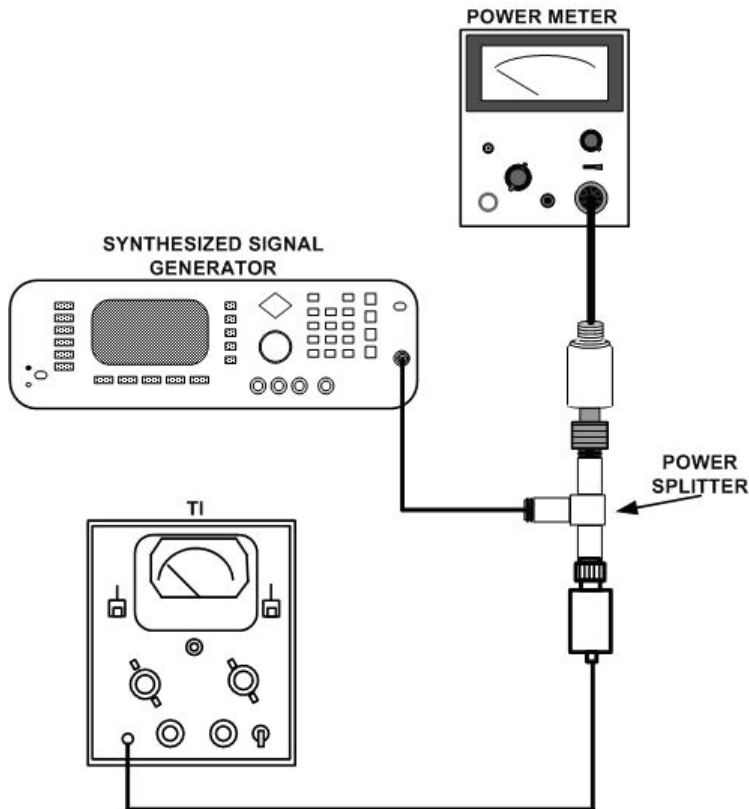

Figure 5. Thermistor mount - equipment setup.
(1) Set **POWER RANGE** (**RANGE** on some models) switch to **1.0 MW** and zero the TI meter, using **BOLO BIAS CURRENT** (**BIAS CURRENT** on TS-799/U) switch and **ZERO COARSE** and **FINE** controls.
(2) Connect equipment as shown in figure 5.